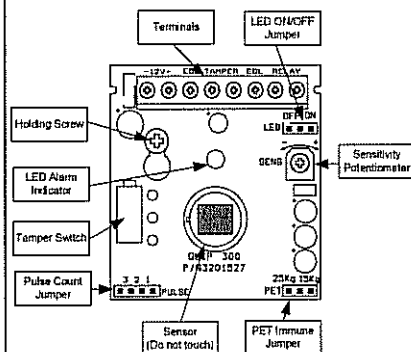

Fig. 7
2. Carefully unscrew the PCB holding screw located on the PC board (*Fig. 7*).